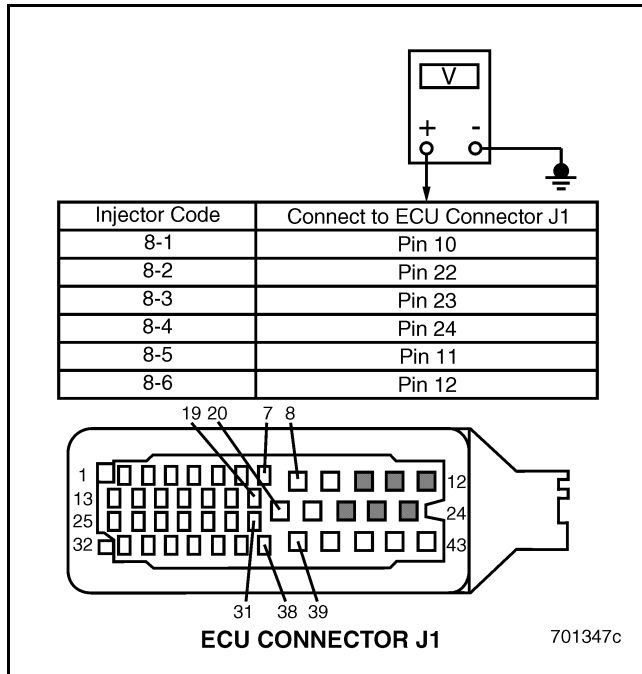

Figure 748
5. Measure the voltage between the suspect EUP control line at EECU connector J1 and a good ground (see chart in Figure 748).